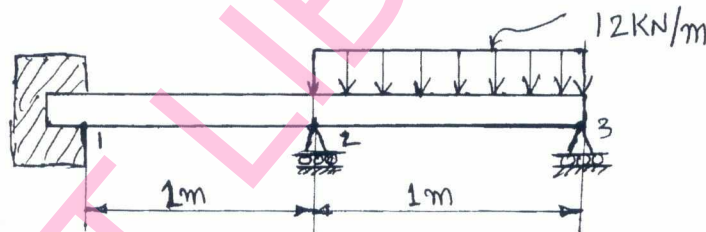

Fig.Q7(b)
- b. For the beam and loading shown in Fig. Q7(b), determine the slopes at 2 and 3, vertical deflection at the mid points of the distributed load. Take  $E = 200 \text{ GPa}$ ,  $I = 4 \times 10^6 \text{ mm}^4$ . (12 Marks)